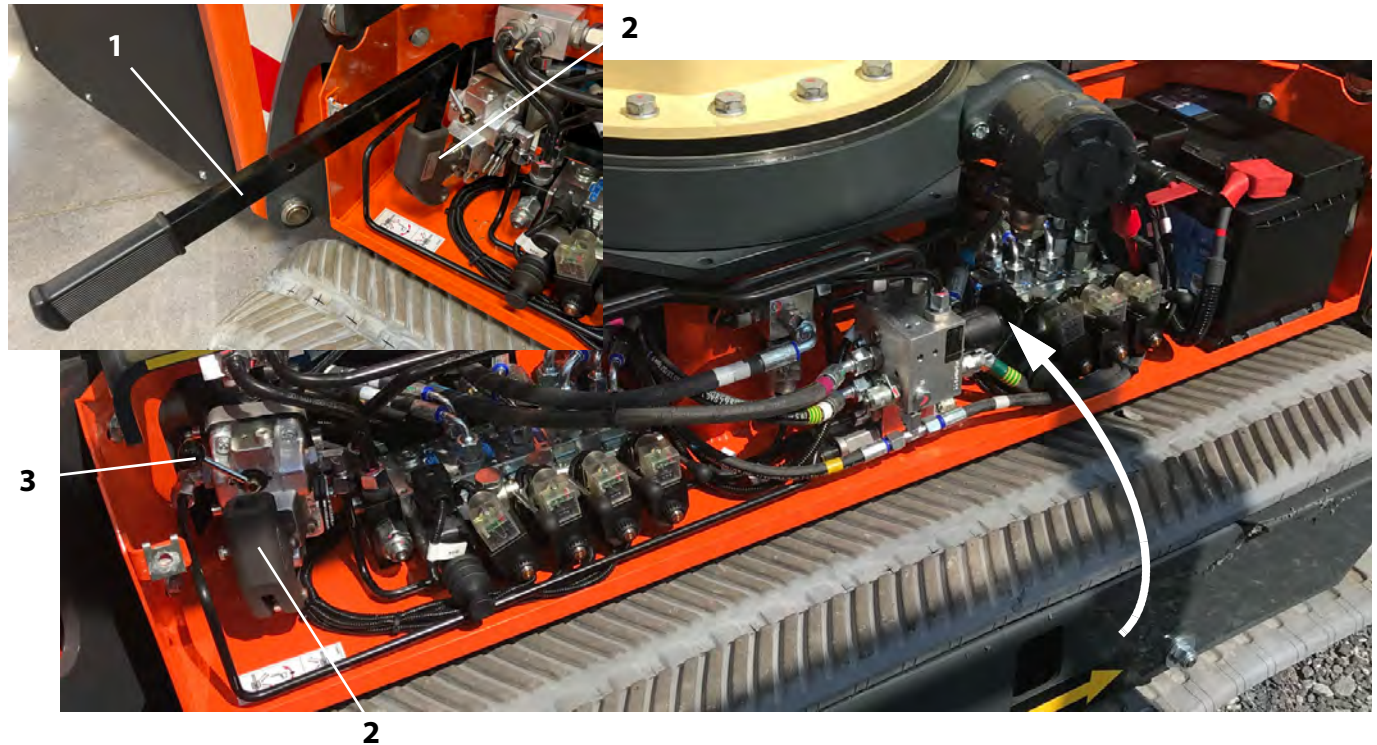

Figure 5-2. Ground Control Station - Emergency Chassis/Drive Functions and Hand Pump
See Figure 5-2.
3. Insert pump handle (*item 1 - Figure 5-2.*) into the pump handle base (*item 2 - Figure 5-2.*) The lever on the pump must be set to the left (*item 3 - Figure 5-2.*), check decal above pump.